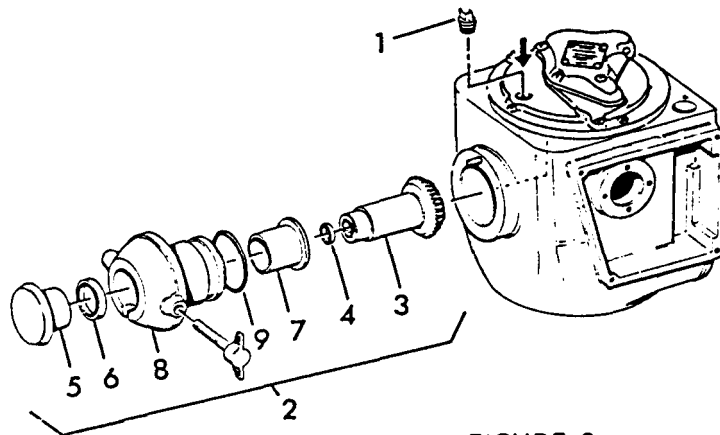

FIGURE 2
A. REMOVE OIL FILLER PLUG (1, FIGURE 2), INSERT 3/8 INCH LONG STEMMED ALLEN WRENCH DOWN THROUGH FILLER PLUG HOLE AND LOOSEN SETSCREW (APPROX. 3 TURNS). WITH SCREWDRIVER BETWEEN HUB (8) AND TRANSMISSION HOUSING, PRY HUB ASSEMBLY (2) OUT OF TRANS. LIGHT HAMMER TAPS AGAINST BACK OF HUB MAY BE REQUIRED.